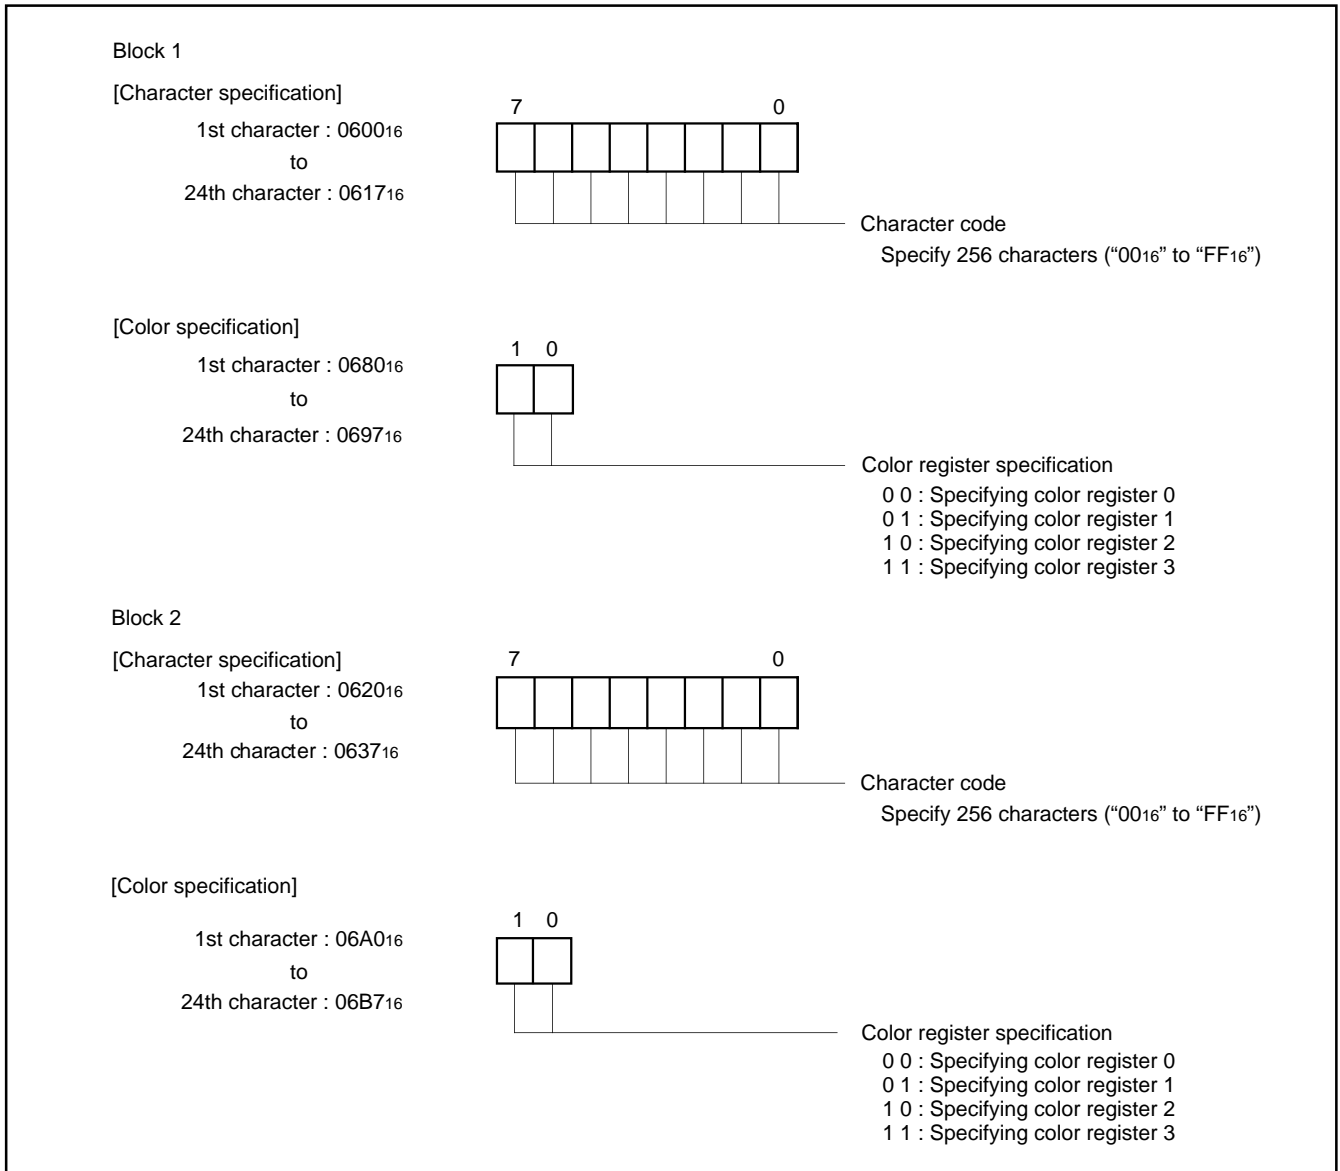

Fig. 41. Structure of CRT display RAM
For example, to display 1 character position (the left edge) in block 1, write the character code in address 060016 and write the color register No. to the low-order 2 bits (bits 0 and 1) in address 068016. The color register No. to be written here is one of the 4 color registers in which the color to be displayed is set in advance. For details on color registers, refer to (5) Color Registers. The structure of the CRT display RAM is shown in Figure 41.